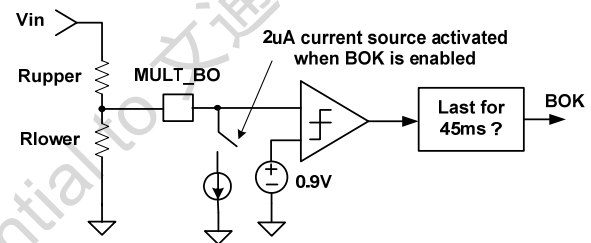

Figure 1
By monitoring the level on pin MULT_BO during normal operation, the controller protects the SMPS against low line voltage condition. When peak voltage of MULT_BO level falls below 0.9V, and lasts for about 45ms, the controller stops pulsing until this level goes back and resumes operation, as shown in Fig.1. By adjusting the resistor divider connected between the high input voltage and this pin, start and stop levels are programmable.
■ Under normal operating conditions ($FB > V_{th2}$, Figure 1), the system operates in QR mode. The frequency varies depending on the line voltage and the load conditions. Therefore, the system may actually work in DCM when 125KHz frequency clamping is reached. System design should be optimized such that the operation frequency is within the range specified at full loading conditions and in universal AC line input range.
■ At light load condition ($V_{th1} < V_{FB} < V_{th2}$, Figure 1), the system operates in PFM (pulse frequency modulation) mode for high power conversion efficiency. In PFM mode, the "ON" time in a switching cycle is fixed and the system modulates the frequency according to the load conditions. Generally, in flyback converter, the decreasing of loading results in voltage level decreasing at FB pin. The controller monitors the voltage level at FB and control the switching frequency. However, the valley switching characteristic is still preserved in PFM mode. That is, when loading decreases, the system automatically skip more and more valleys and the switching frequency is thus